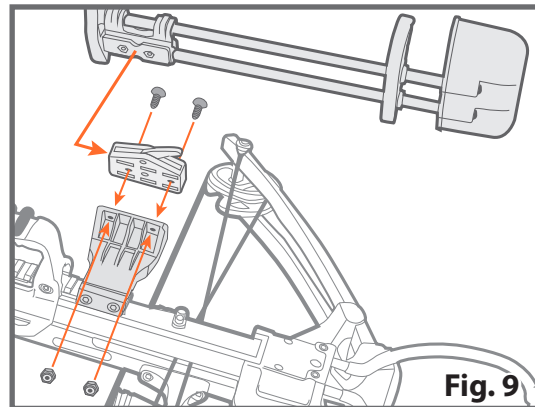

Fig. 9
2. Attach the quick disconnect quiver mount to the end of the mounting bracket (Fig 9).